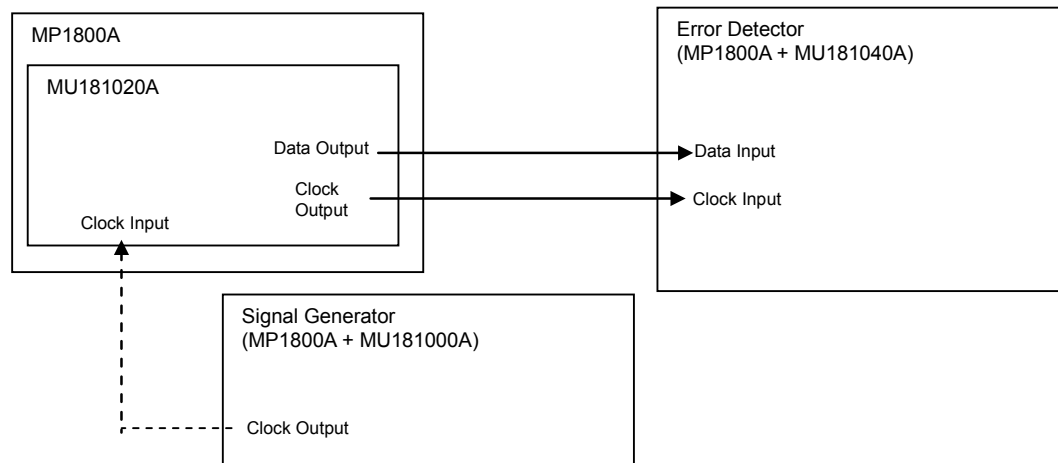

Figure 7.3.1-1 Connection diagram for operating frequency range test
6. Connect cables among measuring instruments by referring to Figure 7.3.1-1.
8. After warming up the instruments, enable the MP1800A signal output (ON) and output signals.